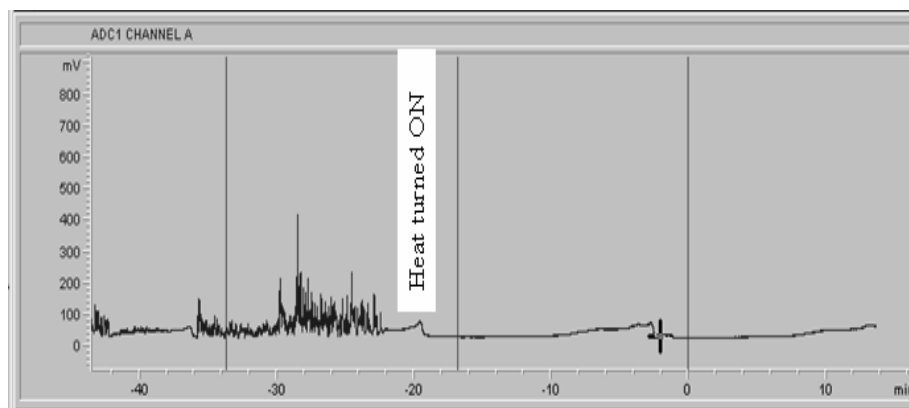

Figure 5-8: Aqueous THF Gradients will cause the Nebulizer to Freeze and cause Excessive Noise
- Mobile phases that can cause freezing of the nebulizer (e.g., aqueous-THF gradients) (see Figure 5-8) should only be used with the Corona^{Plus} detector.